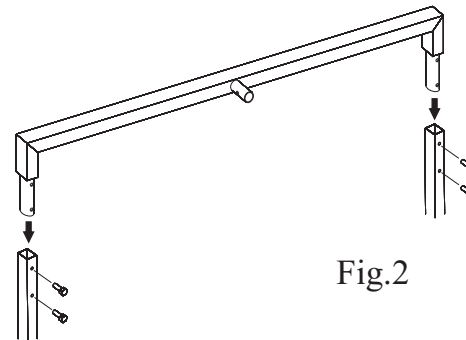

Fig. 2
**1** Start off by identifying all the parts listed in the pack contents on the previous page. Once you have identified all the parts, insert the crossbar mitre joints into the uprights and secure with 4 M10 Bolts (Item 6) (Fig 2).